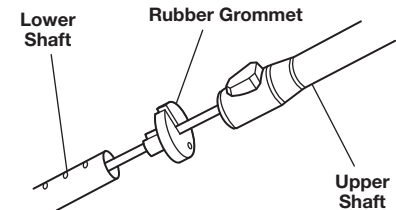

Fig. 1
1. Remove and discard the rubber grommet (Fig. 1).